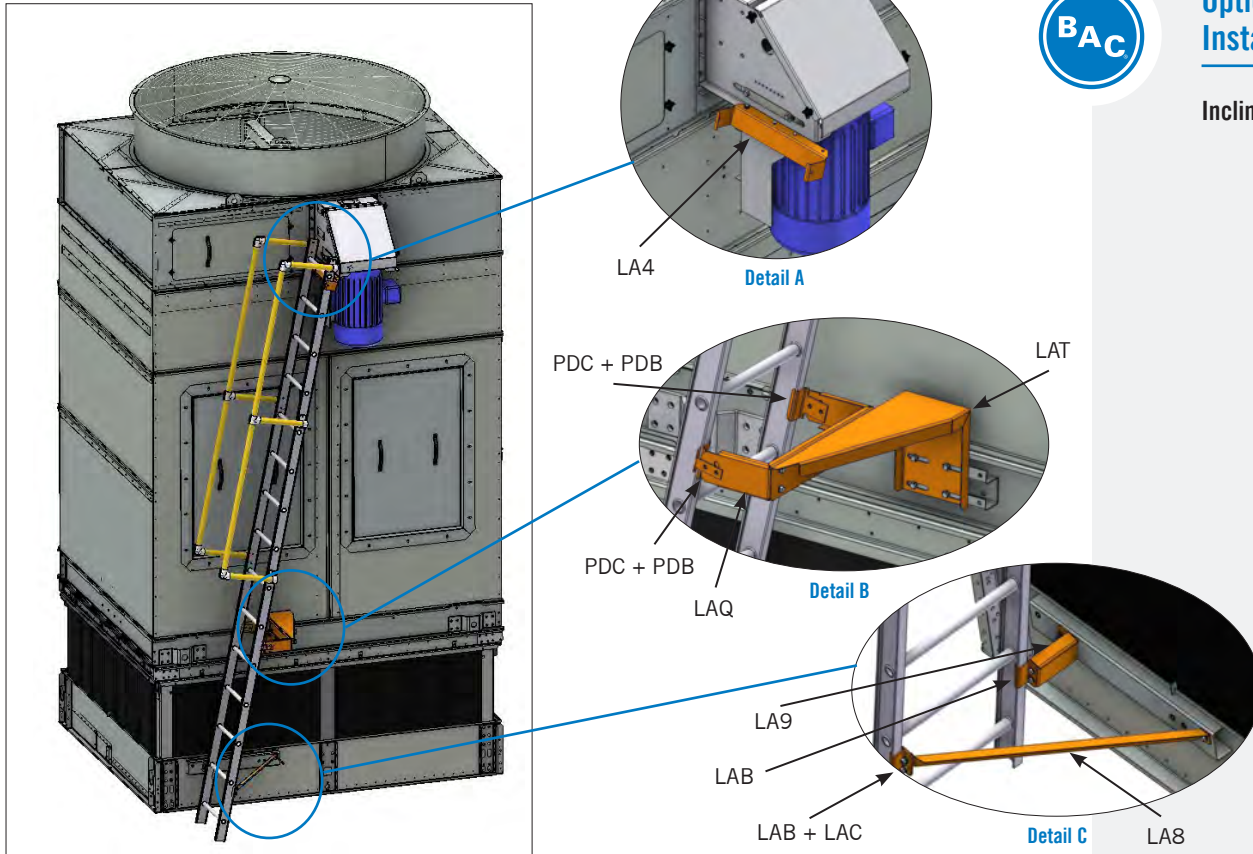

Figure 32. Inclined Access Ladder — PFI-0709, 0718
- PFi-0709, 0718 – LA4. See **Figure 32, Detail A**.